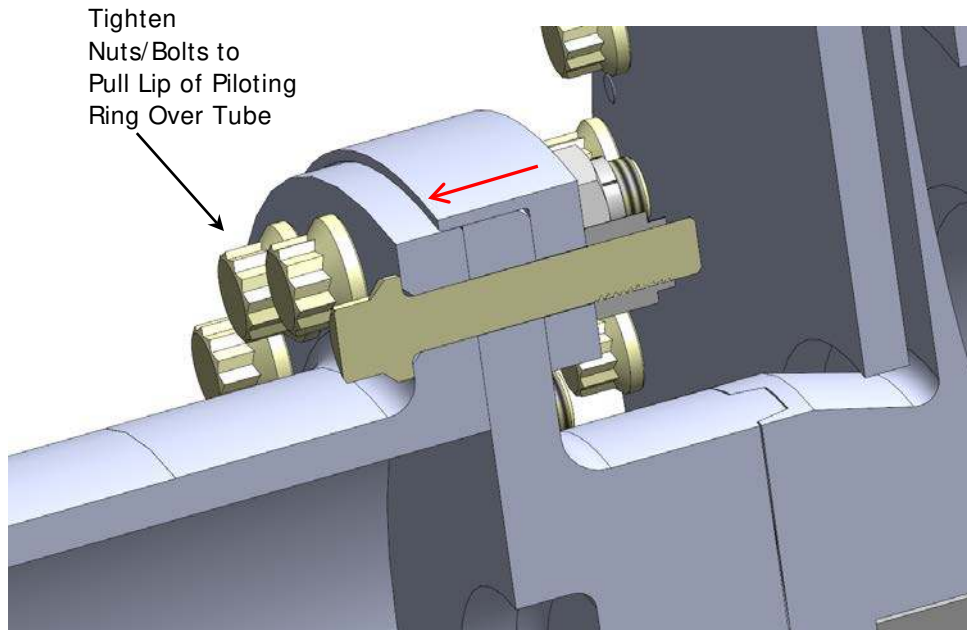

Figure 13 – Piloting Ring Fit Over Tube OD
4.2.3 While supporting the weight of the tube, tighten the bolts/nuts a few turns at a time in a criss-cross pattern to draw the piloting ring over the tube flange evenly (see Figure 13). Install the remaining bolts and nuts and torque evenly in a criss-cross pattern to the torque shown on drawing HC-9151.